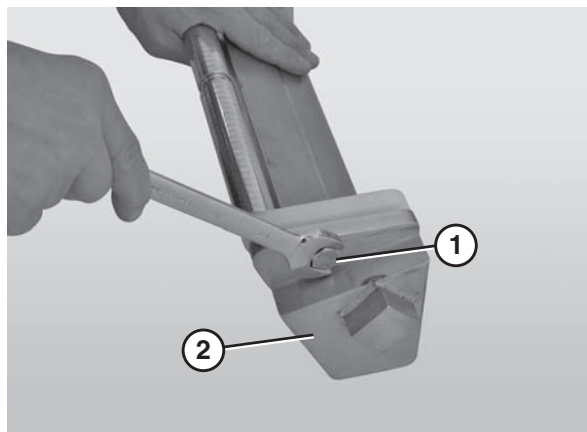

Figure 78
4. Use a 17 mm wrench to remove both pilot nose bolts (**Figure 78, item 1**) from the nose bar weldment (**Figure 78, item 2**).